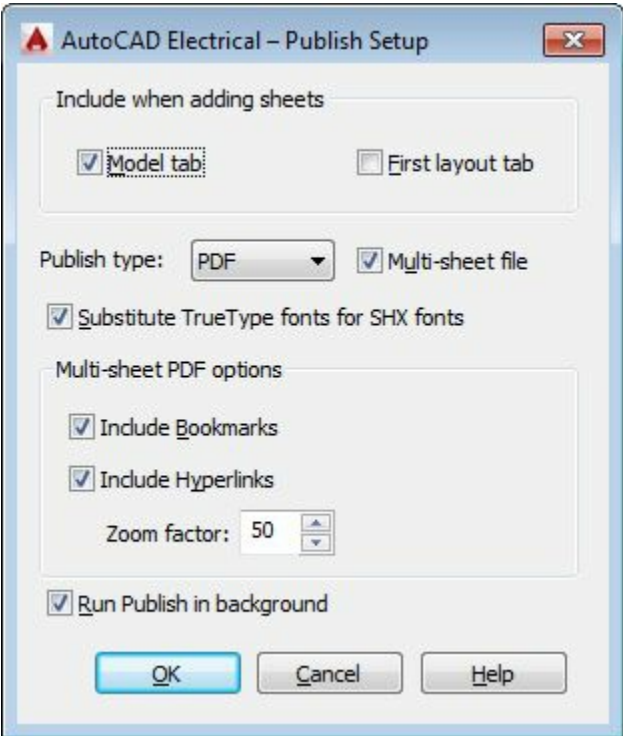

Figure-37. AutoCAD Electrical Publish Setup dialog box
- Include the drawings that you want to publish in the DWF or PDF format. Click on the **OK** button from the dialog box. The **AutoCAD Electrical-Publish Setup** dialog box will be displayed as shown in Figure-37.